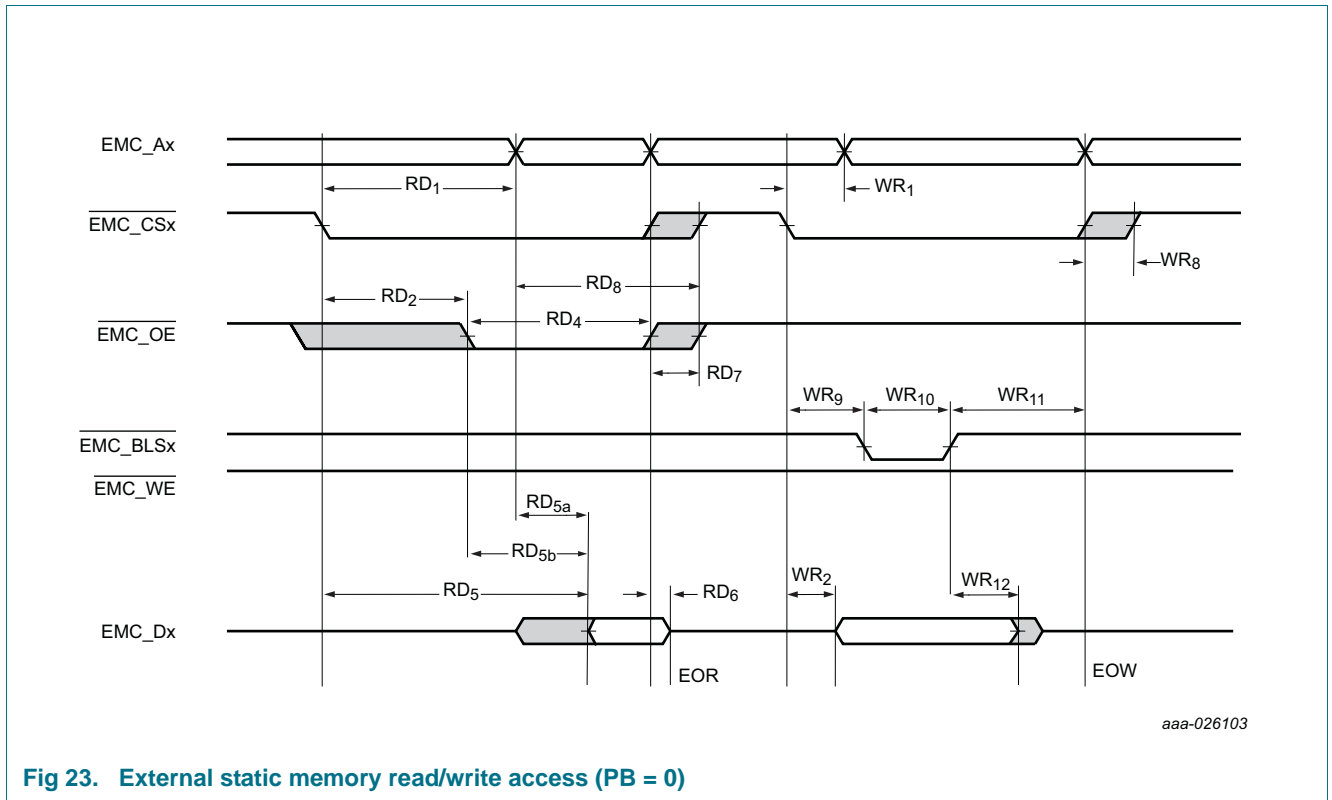

Fig 23. External static memory read/write access (PB = 0)
- [1] Parameters are shown as RDn or WDn in Figure 23 as indicated in the Conditions column.
[1] Parameters are shown as RDn or WDn in Figure 23 as indicated in the Conditions column.